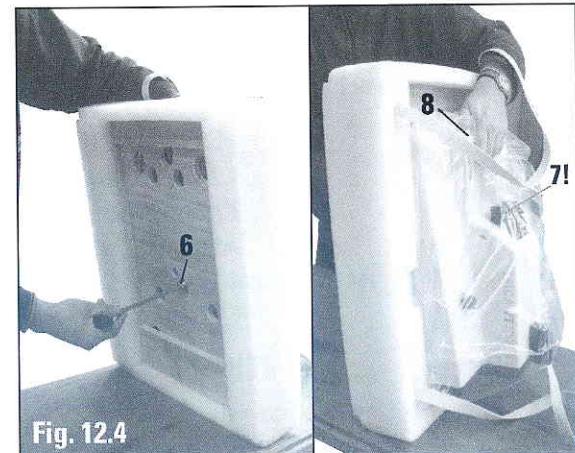

Fig. 12.4
3. Lift the instrument out of the transport carton by the carrying straps (5) and place it on a suitable stable laboratory table. The instrument is securely fastened to the baseplate (6) using a screw. Tilt the instrument including the baseplate (Fig. 12.4) - hold the instrument with one hand on the recess (8) for the buffer tray! **NEVER** lift or hold it by the cutting head (7)! Unscrew the screw (6) using the size 8 Allen key provided and remove the base plate.